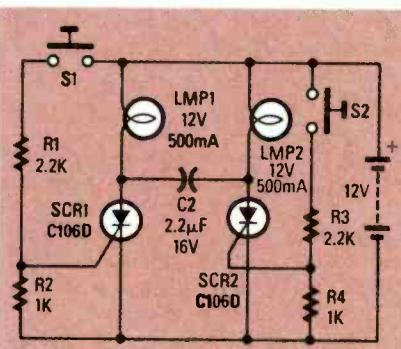

FIG. 5—A BISTABLE LATCH (or flip-flop) can be built from two SCRs.
**FIG. 5—SLIGHT GAIN DIFFERENCES** between the inverting and the non-inverting inputs produce an erroneous output voltage. The ratio of the output voltage to the common-mode input voltage is the common-mode rejection ratio.
Common mode refers to the fact that both inputs are referenced to the same identical source. One way to produce a common-mode condition is to tie the two inputs together and bias them above ground, as illustrated in Fig. 5. The output voltage of that circuit is the common-mode error voltage.
Figure 5 shows how the previous circuit can be modified so that it acts as a bistable latch (flip-flop) that drives two independent lamps. To understand how it works, assume first that SCR1 is on and SCR2 is off, so that C1 is fully charged, with its LMP2 end positive. The state of the circuit can be changed by pressing S2. As SCR2 turns on, it turns SCR1 off capacitively via its anode. Capacitor C1 then recharges in the opposite manner (i.e., the left end is now positive). The state of the circuit can be changed again by pressing S1, thus driving SCR1 on by way of its gate, and driving SCR2 off capacitively via its anode.